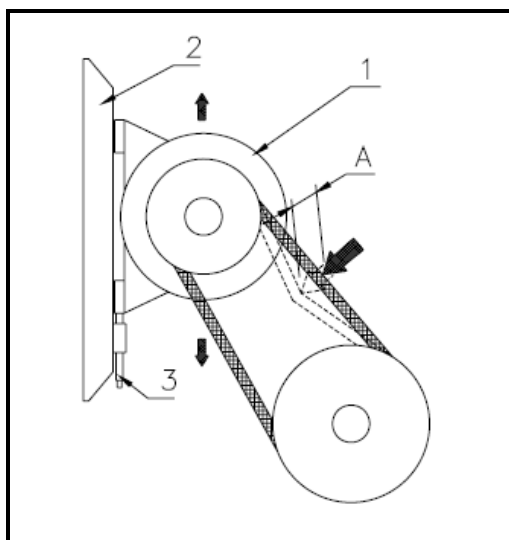

Fig. 7.8
- Put a force of 75N on one of the V-belts in the middle of the 2 pulleys, see fig 7.8.
- The pressing-in (A) must be about 1 cm .
- Is the value too small (tension too high), move the electric motor (1) downwards.
- Move the electromotor, use the tensioning rail (2)
- Place both tensioners (3) underneath the motor.